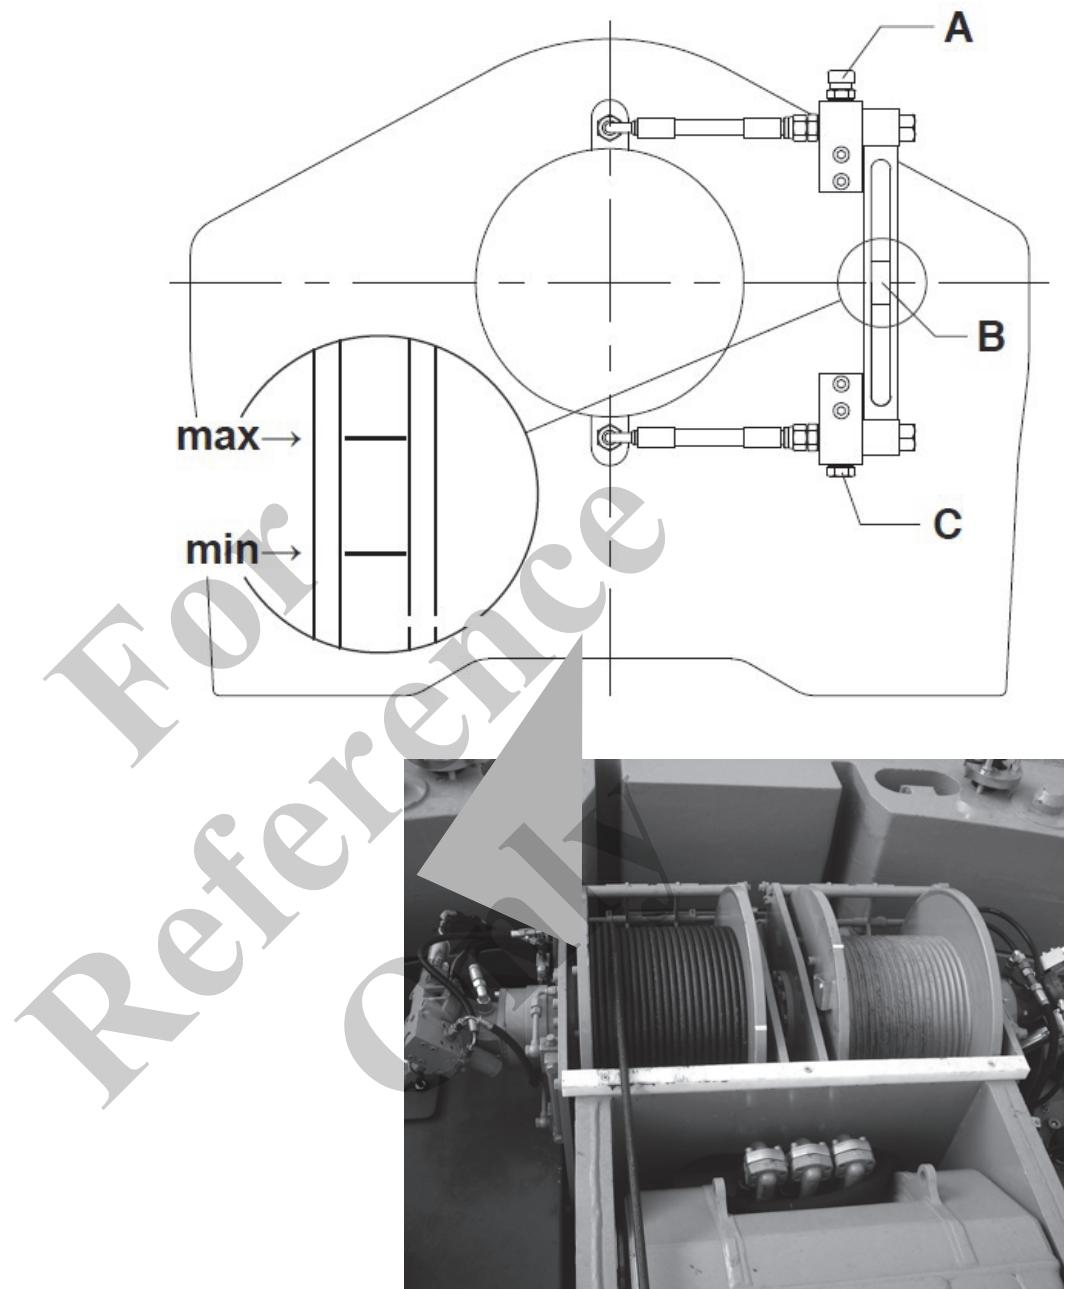

Fig. 23 Winch
3	Check the oil level at the oil level indicator (B) in Fig. 23: The oil level must be between the lower marking (MIN) and the upper marking (MAX).
5	Remove the cap of the oil filler neck (A) in Fig. 23.
6	Add fresh gear oil until the oil level (B) in Fig. 23 is between the MIN and MAX markings.
7	Reinstall the cap to the oil filler neck (A) in Fig. 23.
3	Place a suitable collecting vessel under the oil drain (C) in Fig. 23.
4	Remove the oil drain plug (C) in Fig. 23.
7	Reinstall the oil drain plug (C) in Fig. 23.
8	Remove the cap of the oil filler neck (A) in Fig. 23.
9	Add fresh gear oil until the oil level (B) in Fig. 23 is between the MIN and MAX markings.
10	Reinstall the cap to the oil filler neck (A) in Fig. 23.